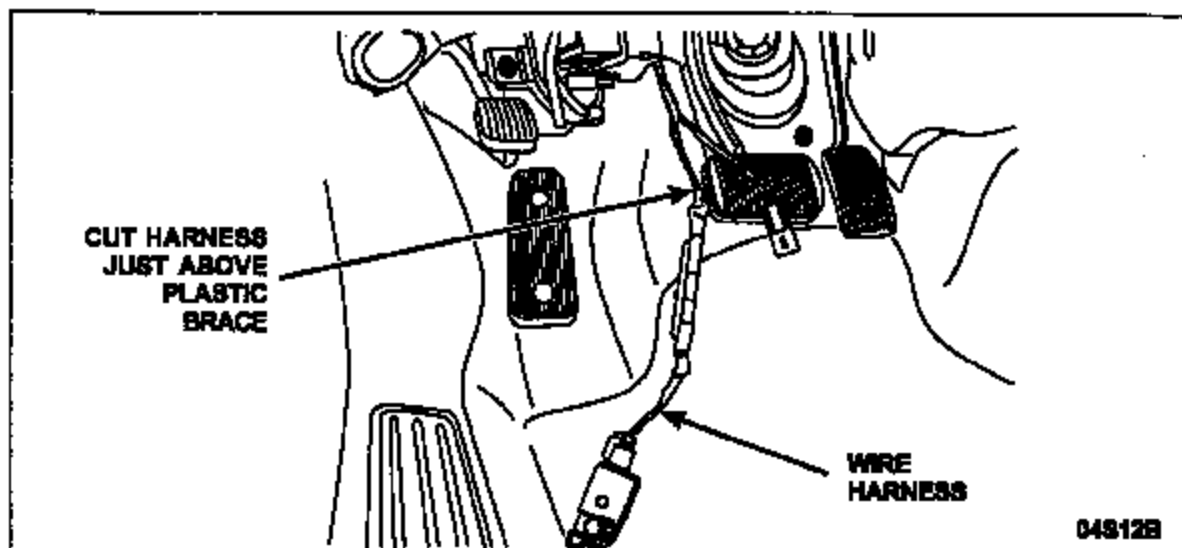

FIGURE 2
3. Cut off the stop lamp switch wire harness above the plastic brace and discard the switch and harness. See Figure 2.